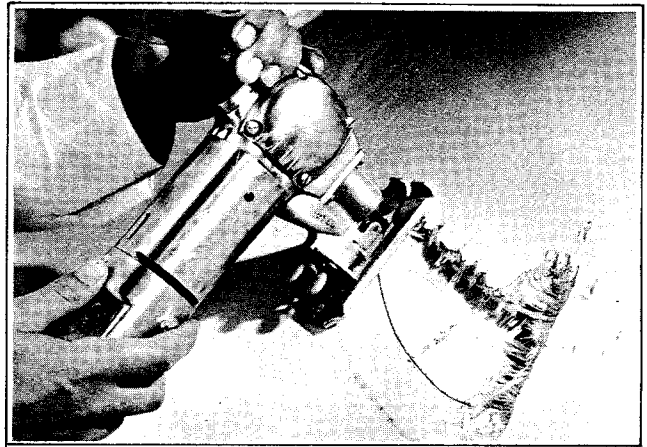

Figure 2-40. Sawing Out Damaged Area
2. Prepare injured area by cutting back fractured material to the sound part of the material. A key-hole or electric saber saw can be used to cut out the ragged edges. See Figure 2-40.